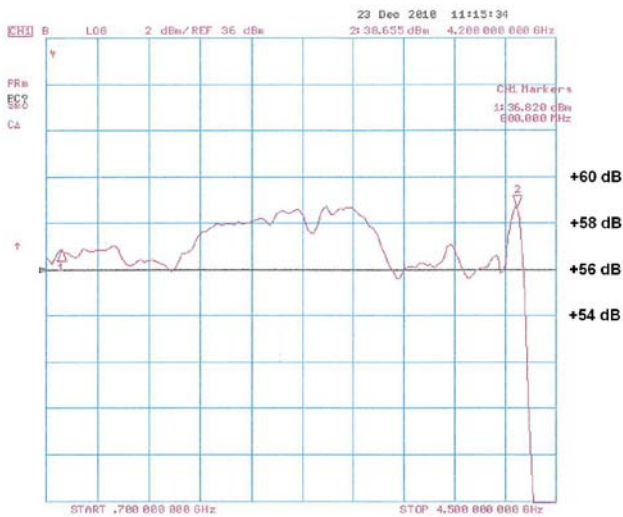
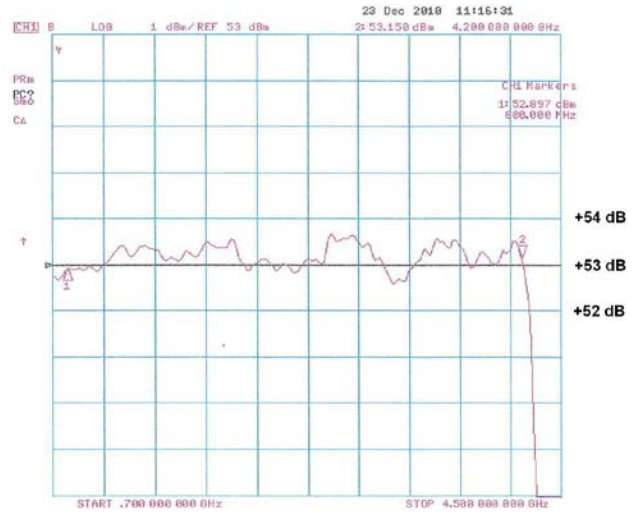

Figure 4-1. Typical Response at 0 dBm Input
Figure 4-2. Typical Response at -20 dBm Input
- The Model 681’s typical gain response at 0 dBm input and -20 dBm input is shown in Figures 4-1 and 4-2. The actual gain may vary considerably from that shown in Figure 4-1 but should be ≥ 52.5 dB. Figure 4-2 should be ≥ 54 dB. *NOTE: If the overall gain is low, the amplifier chain can be separated at the input of A4 Two-Way Splitter.*